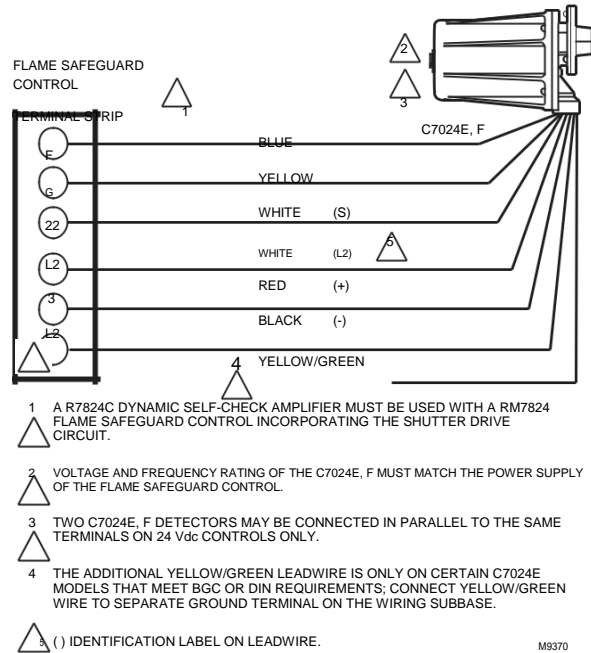

Fig. 10. Wiring diagram for C7024E,F Detectors with RM7824 Flame Safeguard controls with shutter drive circuitry.
7. Refer to Fig. 10 for wiring connections.